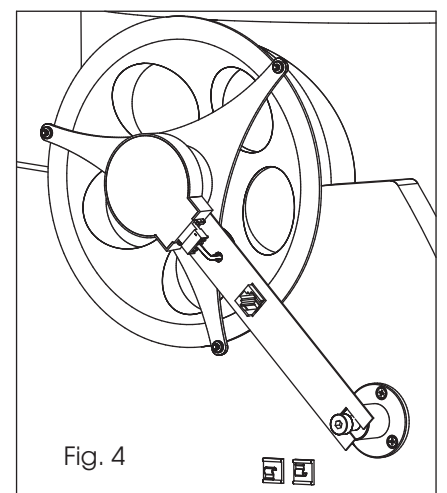
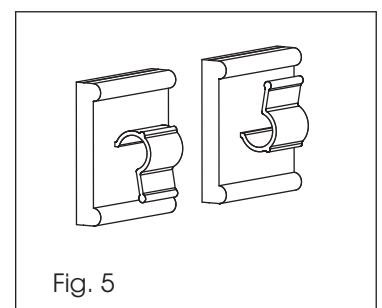

Fig. 4
Fig. 5
4) Insert the supplied 5/16" socket head shoulder screw into the circular tangent arm locating coupler as seen in Fig 3. With one hand, rotate the tangent arm around to approx. the 4 o'clock position as shown in Fig 4. With the other hand, slide the locating coupler beneath the slot in the tangent arm so that the shoulder screw is mid-way along the length of the slot. Being careful not to shift the position of the locating coupler, remove the shoulder screw so as to allow the tangent arm to be positioned out of the way. Using the three mounting holes as a template, carefully spot three holes approximately 2mm deep using a 2mm drill bit. Use three supplied 5g x 16mm self-tapping wood screws and fasten the locating coupler in place. Locate tangent arm slot above the locating coupler. Thread supplied 5/16" socket head shoulder screw through the slot and into the locating coupler. Tangent arm should be free to 'float' and slide on silver colored shoulder of shoulder screw as shown in Fig 3.
5) Fasten two of the supplied self-adhesive cable clips near the end of the tangent arm to act as strain reliefs for the encoder cable as seen in Fig 4. The clip closest to the end of the tangent arm should have its opening facing upwards and the clip to its left oriented with its opening facing downwards as seen in Fig 5.